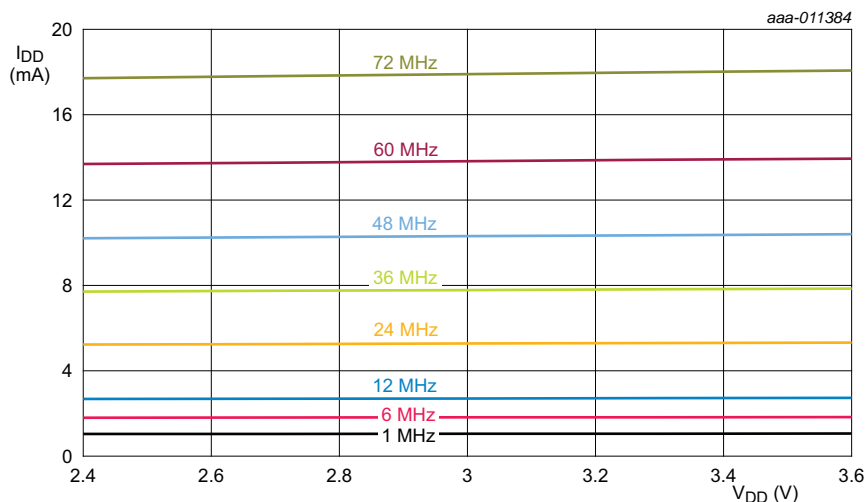

**Fig 17. Pin input/output current measurement**
High-drive output pin configured as digital pin (PIO0_24); see <a href="#">Figure 17</a>
I 2 C-bus pins (PIO0_22 and PIO0_23); see <a href="#">Figure 17</a>
- [20] Pull-up and pull-down currents are measured across the weak internal pull-up/pull-down resistors. See Figure 17.